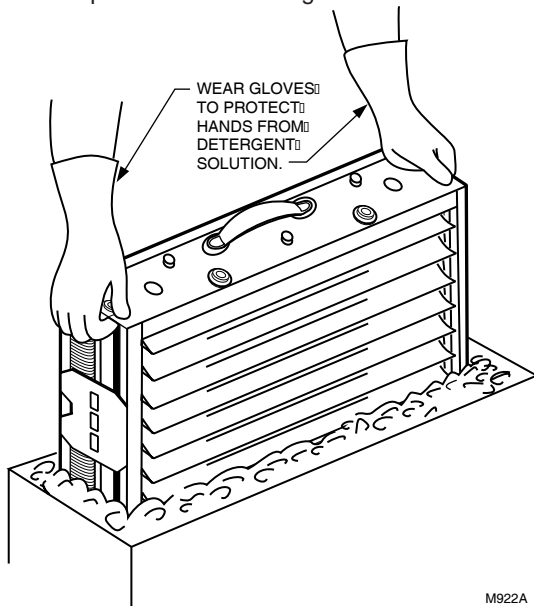

Fig. 12. Agitate the cells in the water.
- Soak the cells in the solution for up to 15 minutes; agitate the cells up and down. See Fig. 12.